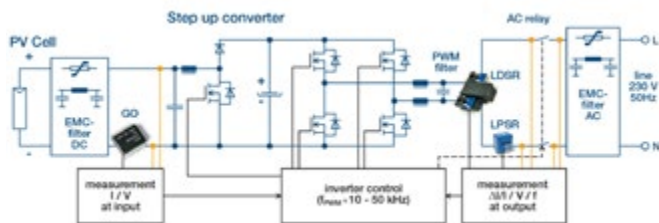

Figure 1: An inverter system for Photo-Voltaic installations.
Figure 1 shows main components around an inverter in a PV system typically used in residential installations of up to approximately 20kW.
There are 3 LEM current transducers in figure 1, all containing custom proprietary CMOS ASICs with fully integrated Hall cells. On the DC side of the inverter there is an open-loop GO; on the AC side a closed loop LPSR for the inverter control system and at the output an LDSR, a new differential transducer for RCM also with a closed loop architecture. (For a detailed explanation of Hall effect open and closed loop transducers see Reference (1))